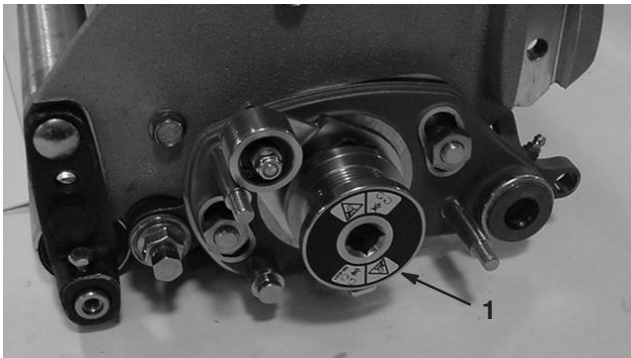

Figure 39
7. Remove the groomer drive pulley from the reel shaft (Fig. 39).